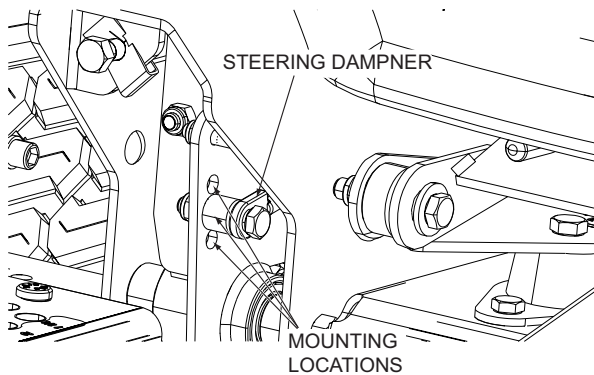

Figure 6-10. Steering Dampner Adjustment
1. **Top Mounting Location (Figure 6-10).** Used for the highest dampening affect on the steering controls.
2. **Middle Mounting Location (Figure 6-10).** Used for average dampening affect on the steering controls.
3. **Bottom Mounting Location (Figure 6-10).** Used for the lowest dampening affect on the steering controls.
When the clutch is disengaged, the air gap between the armature and rotor must be adjusted to fifteen thousandths of an inch, 0.015, for proper operation. The airgap adjustment is made at three bolts on the clutch. There are three inspection windows, one next to each adjusting bolt. See Figure 6-10.